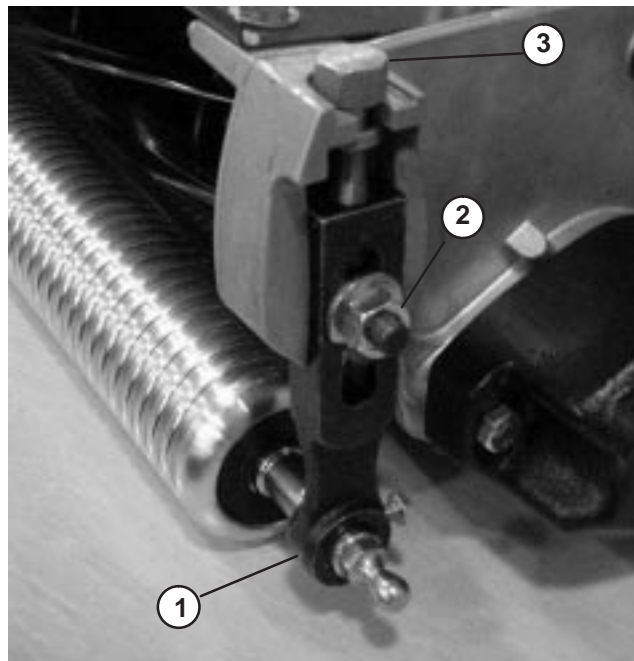

Figure 13
1. Loosen locknuts securing height-of-cut arms to cutting unit side plates (Fig. 13).